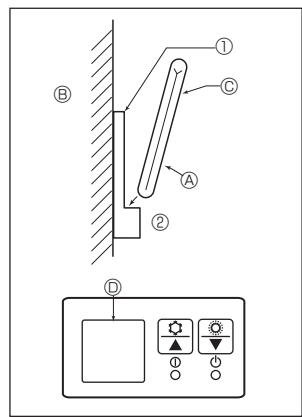
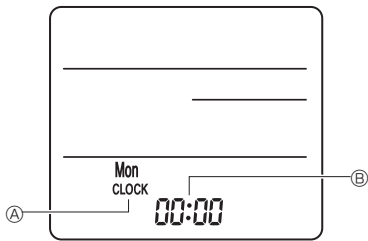

Fig. 6-5
Fig. 6-6
2) Installation method (Fig. 6-5)
- ① Attach the remote controller holder to the desired location using 2 tapping screws.
- ② Place the lower end of the controller into the holder.
3) Setting (Clock setting) (Fig. 6-6)
- ① Insert batteries or press the **CLOCK** button with something sharp.
- ② Press the **RESET** button with something sharp.
- ③ Press the **↑** button to set the time.